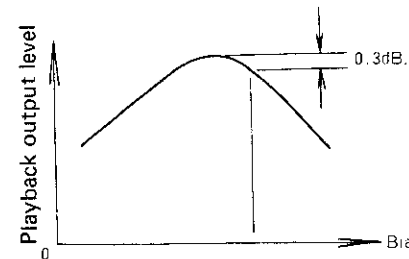

Fig. 28
**21.6 BIAS VOLTAGE VARIABLE RANGE (Fig. 28)**
1. Set for 4 (2) channel simultaneous recording mode.
4. Adjust so that after passing peak, each channel output at OUTPUT PLAY jacks (39 k ohms load) becomes -0.3dB, as shown in Fig. 28.